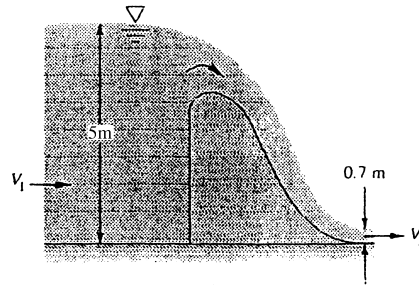

Fig. P3.176
3.176 In the spillway flow of Fig. P3.176, the flow is assumed uniform and hydrostatic at sections 1 and 2. If losses are neglected, compute (a) V_2 and (b) the force per unit width of the water on the spillway.